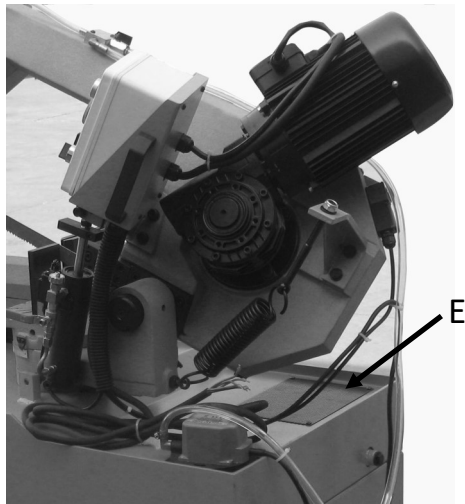

Fig 7
- Fill the bandsaw with coolant by pouring the coolant into the coolant tank via the coolant inlet mesh (E) shown in Fig. 7.